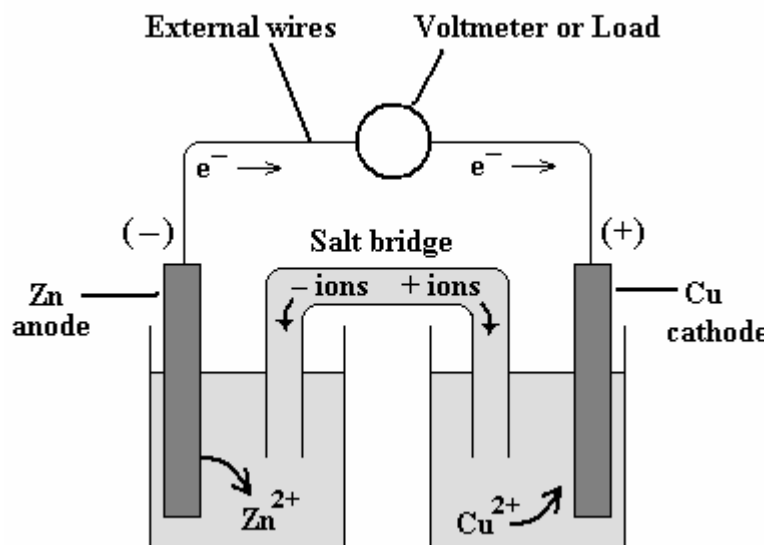

Figure 1. Galvanic cell (or battery) based on the redox reaction in equation (4).
A *galvanic cell* or *voltaic cell* is a device in which a redox reaction, such as the one in equation (4), spontaneously occurs and produces an electric current. In order for the transfer of electrons in a redox reaction to produce an electric current and be useful, the electrons are made to pass through an external electrically conducting wire instead of being directly transferred between the oxidizing and reducing agents. The design of a galvanic cell (shown in Figure 1 for the equation (4) reaction) allows this to occur. In a galvanic cell, two solutions, one containing the ions of the oxidation half-reaction and the other containing the ions of the reduction half-reaction, are placed in separated compartments called *half-cells*. For each half-cell, the metal, which is called an *electrode*, is placed in the solution and connected to an external wire. The electrode at which oxidation occurs is called the *anode* [Zn in equation (4)] and the electrode at which reduction occurs is called the *cathode* [Cu in equation (4)]. The two half-cells are connected by a *salt-bridge* that allows a “current” of ions from one half-cell to the other to complete the circuit of electron current in the external wires. When the two electrodes are connected to an electric load (such as a light bulb or voltmeter) the circuit is completed, the oxidation-reduction reaction occurs, and electrons move from the anode (–) to the cathode (+), producing an electric current.
Based on the values for the standard reduction potentials for the two half-cells in equation (4) [−0.76 V for zinc anode and +0.34 V for copper cathode], the *standard cell potential*, E°_{cell} , for the galvanic cell in Figure 1 would be: